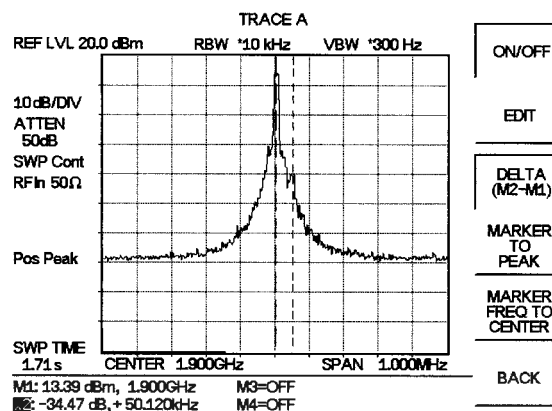

Figure 5-12. Measurement of Two Signals Having Unequal Amplitudes
Step 6. Change the frequency in the second source from 1900.100 MHz to 1900.050 MHz gradually and observe the effect. Figure 5-12 shows the results with the two signals spaced 50 kHz apart using a signal combiner/splitter with a loss of 6 dB.